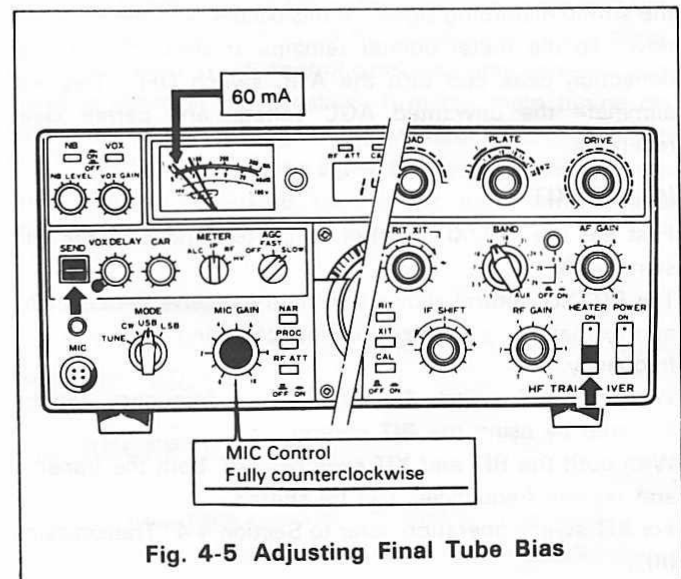

Fig. 4-5 Adjusting Final Tube Bias
4. Place the STAND-BY switch to SEND and adjust bias to 60 mA with the BIAS control on the rear panel, Fig. 4-5.